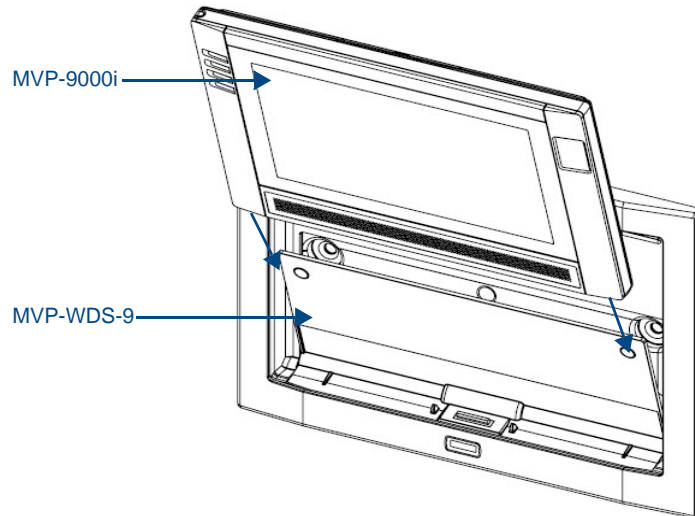

FIG. 12 Inserting the MVP-9000i into the MVP-WDS-9
1. Slide the device into the Wall Docking Station cradle bottom-first and make sure the device is fully seated in the Docking Station (FIG. 12).